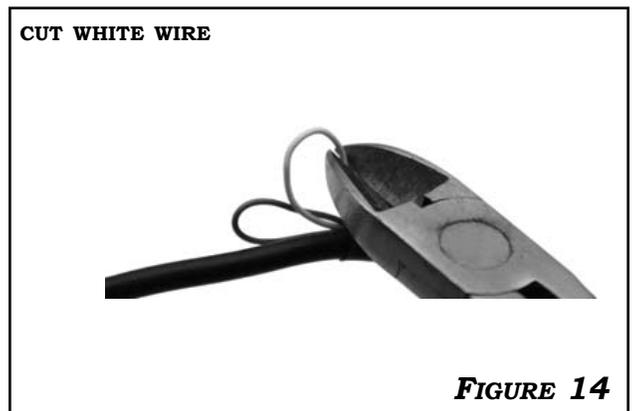

FIGURE 14
5. CUT THE **WHITE WIRE** AND ISOLATE BOTH HALVES OF THE WIRE TO FLIP THE VIDEO IMAGE TO MATCH THE ORIENTATION OF THE CAMERA. **FIGURE 14**